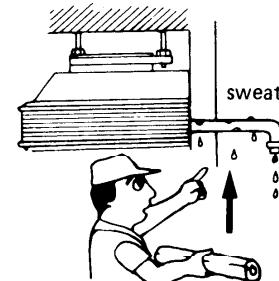

Fig. 18
- If the drain pipe will run in the room, insulate the pipe with an insulation material* so that chilled sweat should not damage furniture or floors. Fig. 18